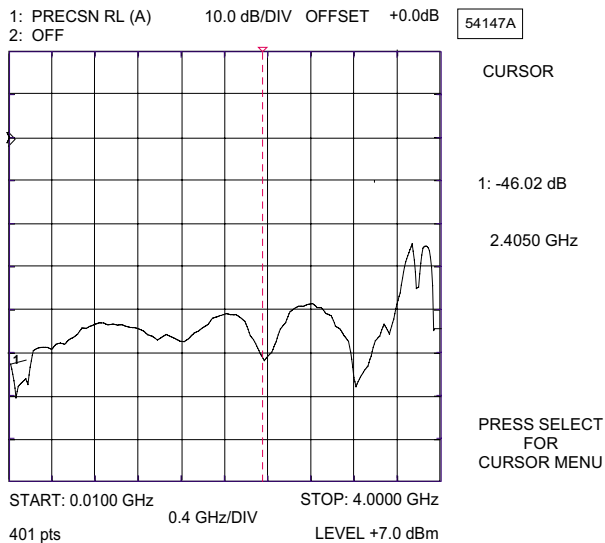

Figure 5. Direct Readout of the Precision Return Loss
22. Observe that the waveform displayed resembles that shown in Figure 5.